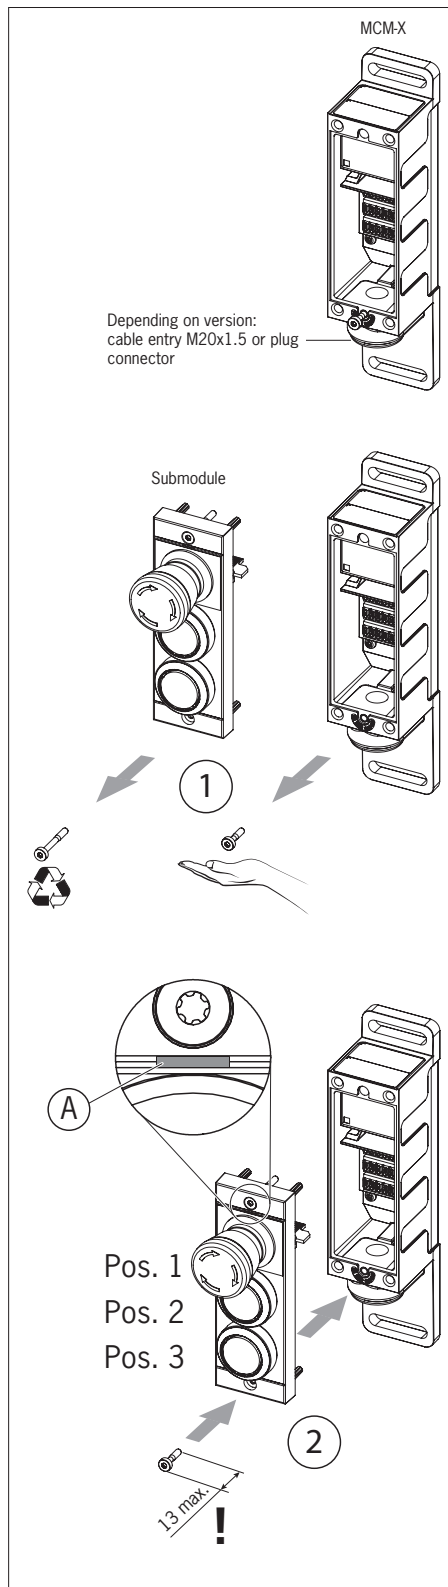

Fig. 1: Mounting submodules
- ▶ Pay attention to the alignment of the submodule. See Fig. 1: *Mounting submodules*, marking **A**. Submodules cannot be installed in a rotated position. Marking **A** always indicates the first position to be equipped. This is position 1 in the example on the right.